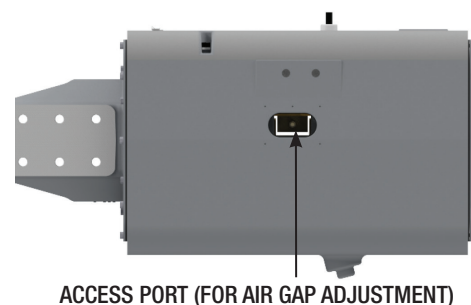
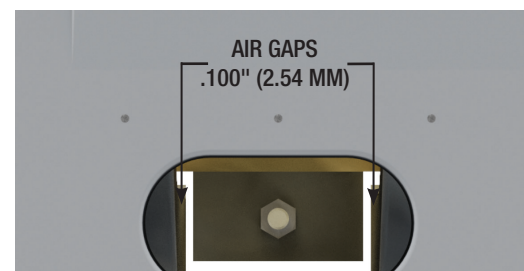

Figure 10 - Access Port
Figure 11 - Motor Gap
8. Remove the nameplate from the side of the body casting to gain access to air gap. (*See Figure 10*).
9. Working through the opening in the side of the body casting (*Figure 10*) and using a non-magnetic feeler gauge (furnished with each unit), (*Part 22*) approximately .100" (3 mm) thick check the air gaps between the E-Frame legs and the armature pole pieces. (*See Figure 11*). These gaps should be uniform in width and parallel and as nearly alike as possible. If they are not, they should be adjusted by shifting the electrical assembly plate with the front or rear adjustment screws. In checking the gaps, the internal parts will be easier to see if the rear cover (*Part 3*) is removed.